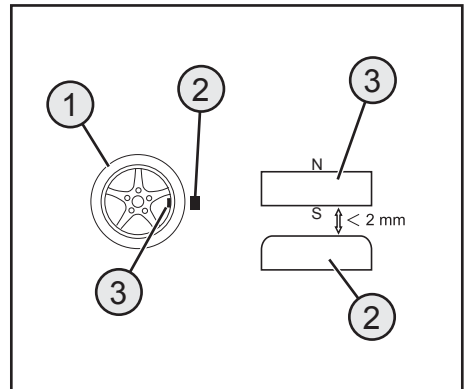

Figure 7a
To install the speed sensor, you need to attach a magnet (figure 7a, item 2) to the rotating part (e.g. a wheel rim – figure 7a, item 1) so that the sensor of the speed sensor (fig. 7a, item 3) can slide past at a distance of less than or equal to 2 mm. Assembly material required for this (suitable glue for the magnet or, e.g., cable ties for the sensor attachment) are not enclosed with the remote control and must be purchased separately.